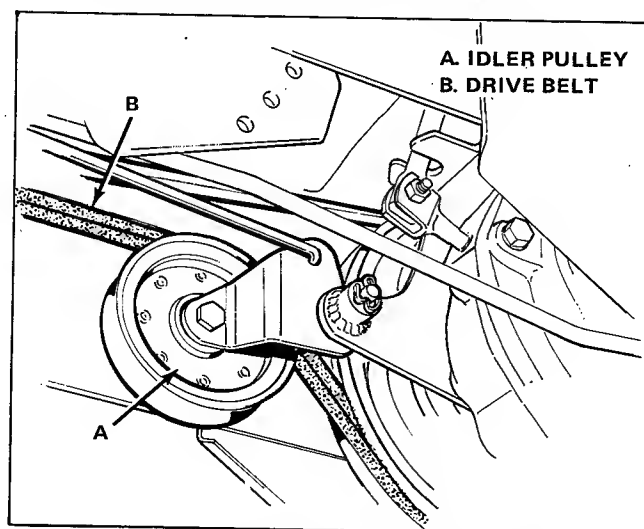

Figure 32. Clutch Rod Adjustment
2. Firmly press the clutch idler pulley (item A, figure 32) against the drive belt (item B) to take all slack out of the drive belt.